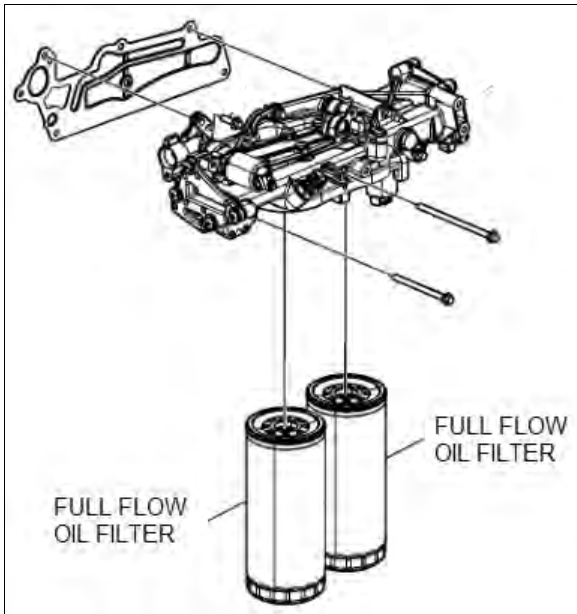

FIGURE 9: D13N OBD20 OIL FILTERS
- Prefill the new oil filters with approved engine oil. Refer to Figure 9, also, lubricate the filter gaskets with engine oil (1). Hand tighten the oil filters until they contact the sealing surface of the oil filter housing (2). Manually tighten the oil filters an additional 3/4 to 1 full turn (3).